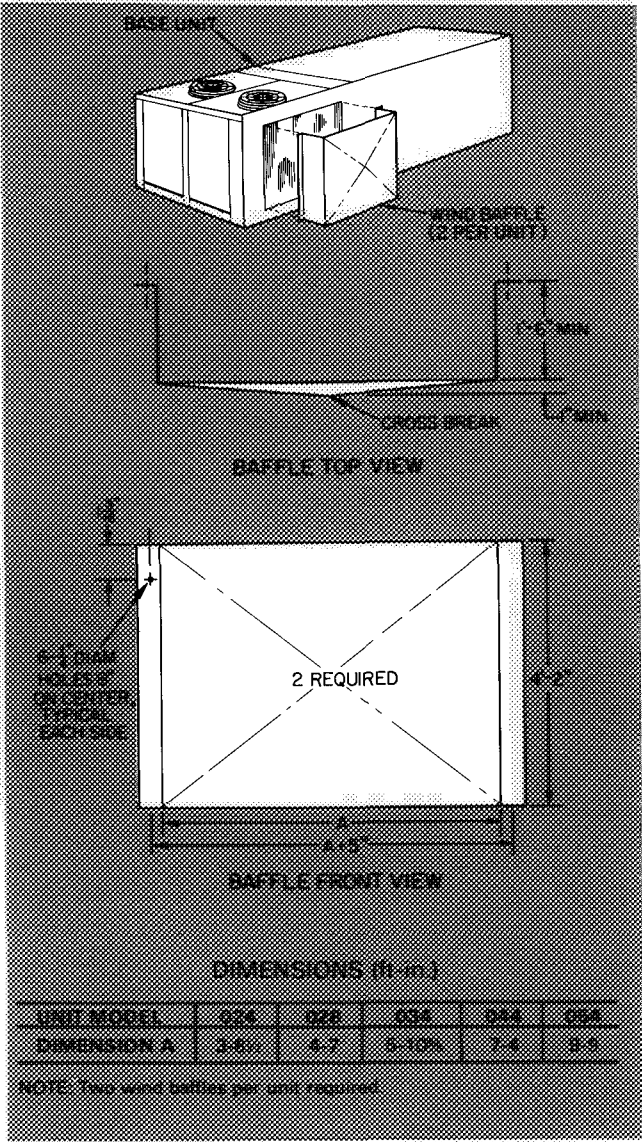

Fig. 18 — Wind Baffles
7. **Wind Baffles** are required for Motormaster control application to 50DF/DL units to prevent wind cross-currents from causing abnormal operation as fan speed control is modulated. Construct baffles as shown in Fig. 18.